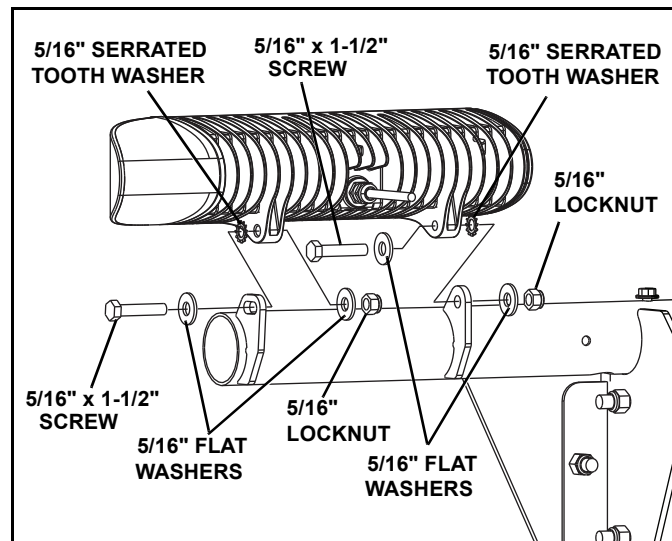

Figure 1-14
23. Place Drivers Side headlamp on top of lightbar with the headlamp tabs inside of the lightbar tabs. Insert (2) 5/16" x 1-1/2" screws. Screws must be inserted from the outside of the plow to the center. Place (2) 5/16" serrated tooth washers between the headlamp and lightbar tabs. Secure with (2) 5/16" lock nuts. Do not tighten. (See Figure 1-14.)
27. Aim plow lights with plow in the fully raised position. Lock the lamps in the adjusted position by tightening two 5/16" x 1-1/2" screws. (See Figure 1-14.)